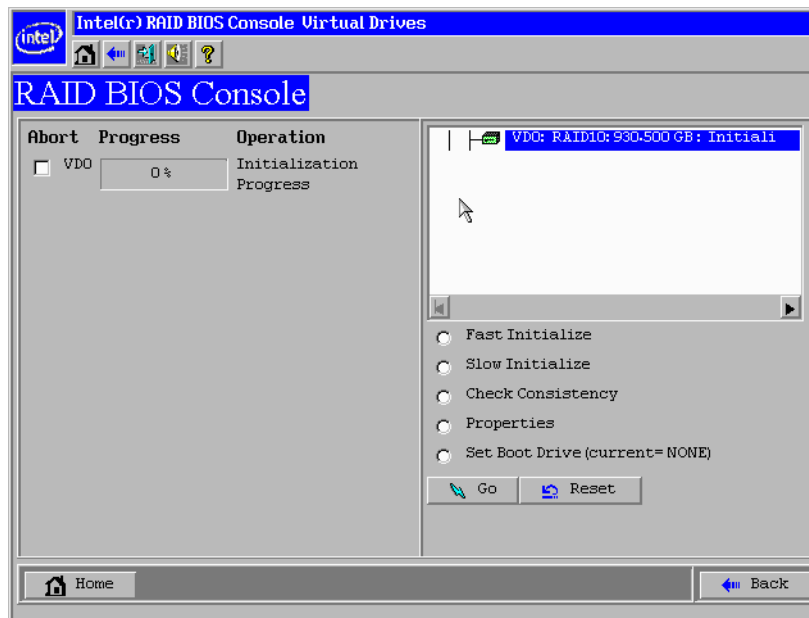

Figure 23. Intel® RAID BIOS Console 2 – initialization settings
15. Select **Fast Initialize** and click **Go** (Figure 23). The drives initialize based on the RAID settings.